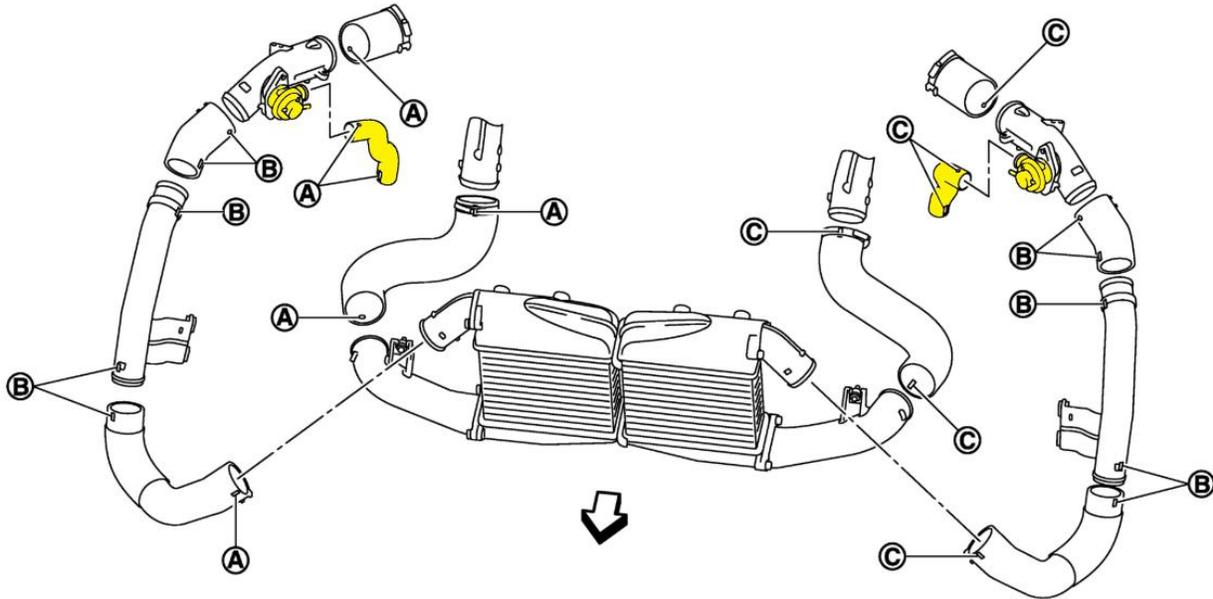

Figure 1
3. Starting on the passenger side of the vehicle, disconnect the Recirculation Hoses from the Recirculation Valve, highlighted below. *Figure 1.*